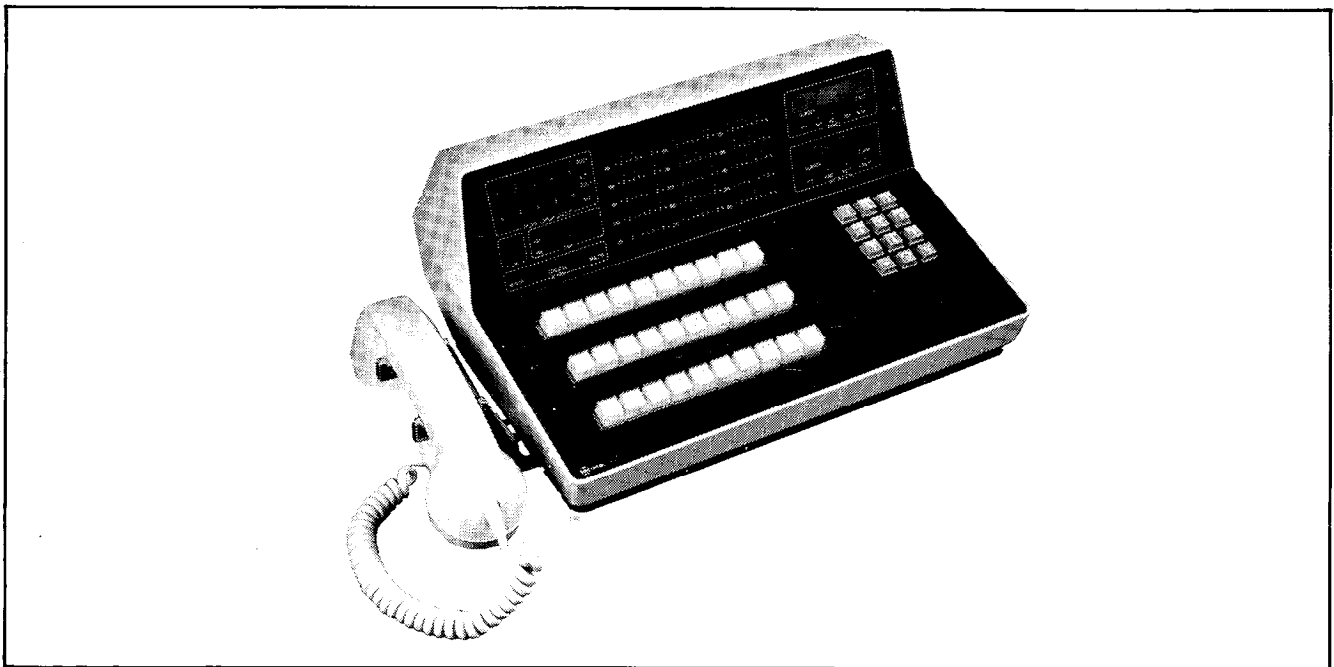

Fig. 2-6 Attendant Console
2.17 The SX-100 attendant console (Fig. 2-6) is enclosed in a housing with a black plastic faceplate. Located on either side of the console are a pair of headset/handset jacks allowing simultaneous operation and supervision. The console keyboard holds three rows of ten nonlocking keys for the selection of features and completion of calls. On the right of the keyboard is a 12-key pushbutton dial pad. The console display, mounted above the keyboard, displays the active states of calls in progress. In addition to the call status display is a busy lamp field, a trunk group status field, a call waiting indicator, a digital clock, and three alarm indicators. The weight of the attendant console is approximately 13lbs (5.9kg) and its dimensions are: 13.75in. (350mm) wide, 6.8in. (176mm) high, 9.25in. (236mm) deep.